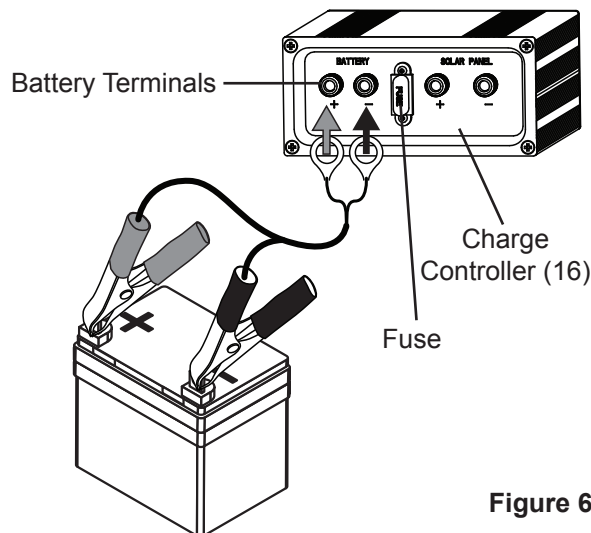

Figure 6
8. Connect the ends of the Battery Clamps to the battery terminals on the back of the Charge Controller. Then attach the Battery Clamps to the battery's terminals. **WARNING!** Be sure to connect all matching polarities. Black (-) is negative and red (+) is positive. See Figure 6, below.
**NOTE:** The voltage display will have to be turned on in order to monitor the battery voltage. (Press the Voltage Meter Switch to turn off the Voltage Meter when not monitoring the battery voltage since it consumes energy.) Twelve (12) Volt batteries should charge to 13 Volts for a full charge. To stop charging the battery, turn Power Switch to OFF and disconnect the solar panels from the Charge Controller.
- c. **Overload Protection:** If the output current exceeds 4 amps the fuse (see Figure 6) will blow to prevent damage to the controller in the Charge Controller. If this occurs, have a qualified service technician replace the fuse.